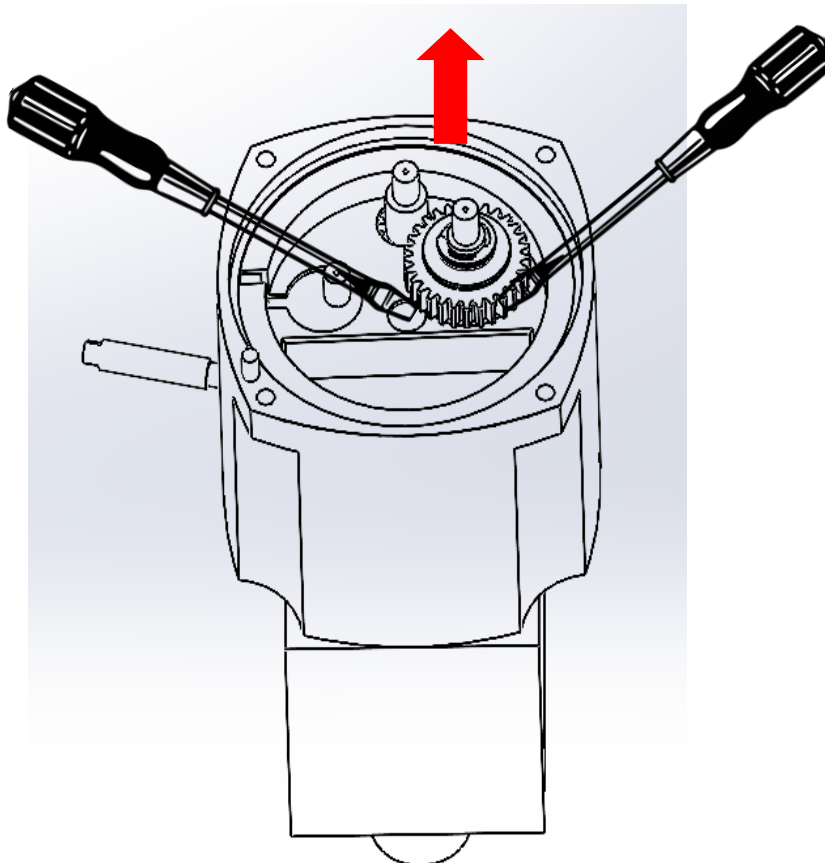

Figure 1.15
- 1.6.1 Using 2 levers, remove the part (mechanical clutch) in the direction of the red arrow (see figure 1.15) and if there is grease, clean it up;